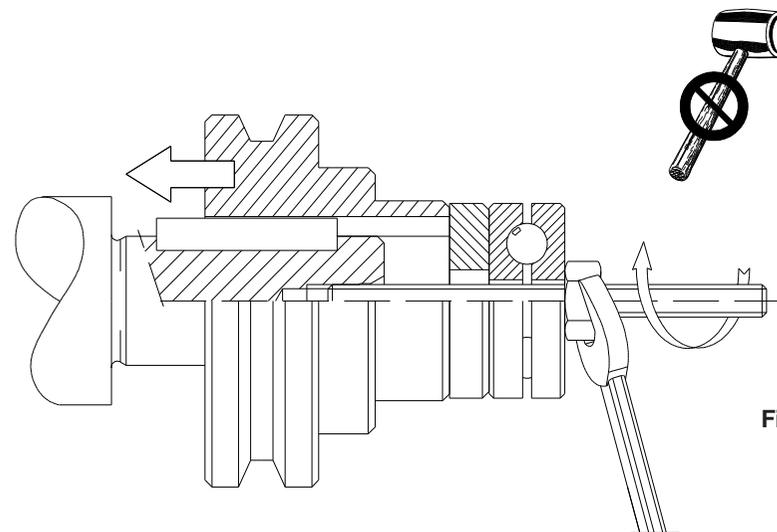

Fig. 1
- The various machine members (pulleys, gear wheels, couplings, etc.) must be mounted on the shafts using special threaded holes or other systems that ensure correct operation without risk of causing damage to the bearings or the external parts of the assemblies (fig.1).